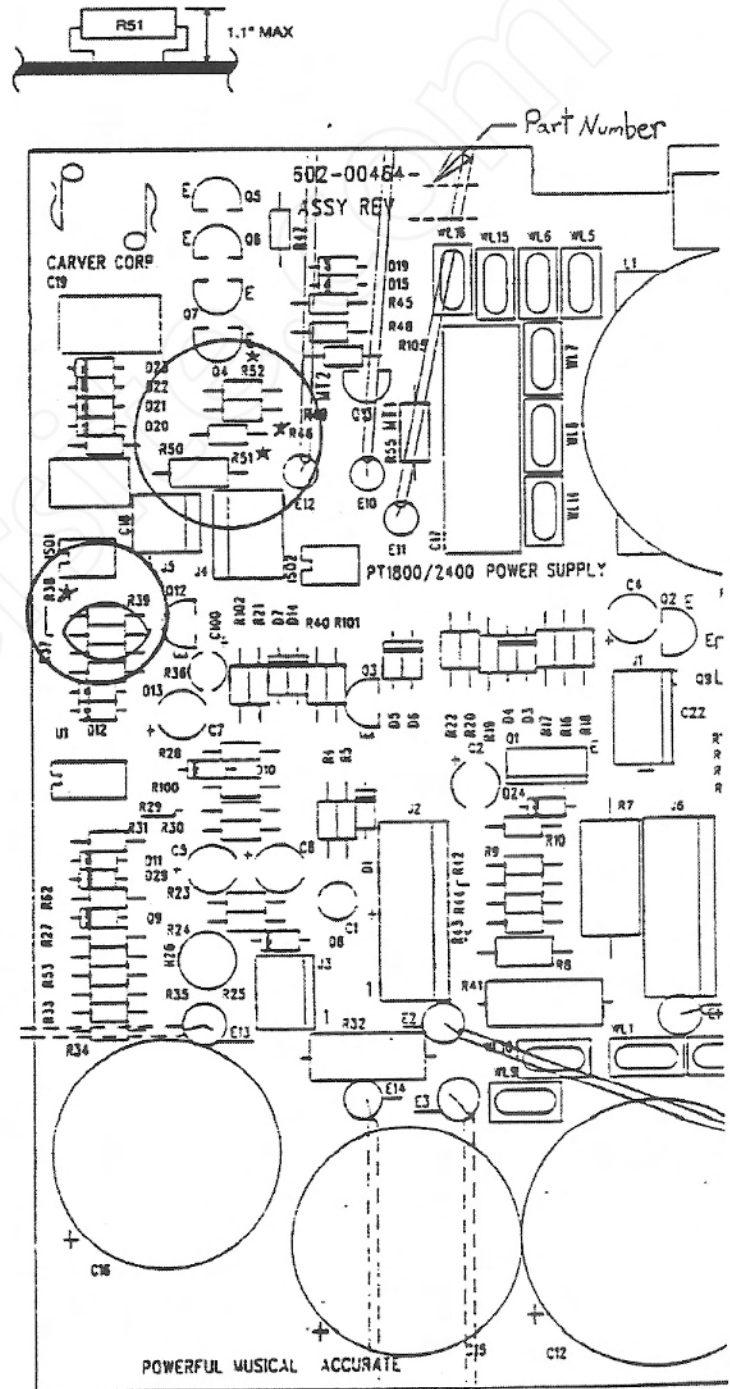

Figure 2. 602-00464-\_\_ Power Supply Board
1. Locate R52 on each power supply board (see Figure 2). Install a 0.22 $\mu$ F/100V polyfilm capacitor (Carver P/N 204-00030-00) in parallel across R52.